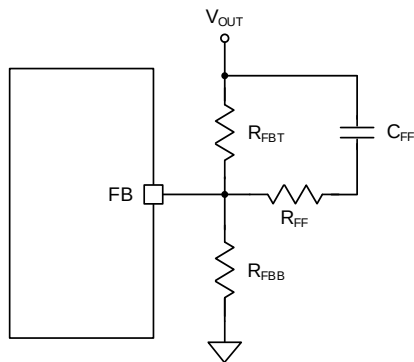

Figure 10-2 FB Configuration with Feedforward Network
Feedforward network in **Figure 10-2** is optional to add an additional pole and zero in loop compensation. It needs to be parallel to R_{FBT} . The zero and pole's frequency introduced by feedforward network is demonstrated in **Equation (2)** and **Equation (3)**, respectively. From the **Equation (2) ~ (3)** it can be told that feedforward zero f_{FFZ} 's frequency is always lower than pole f_{FFP} . Therefore, feedforward network can introduce additional phase lead and increase loop gain. This helps extend loop bandwidth so transient performance is improved.